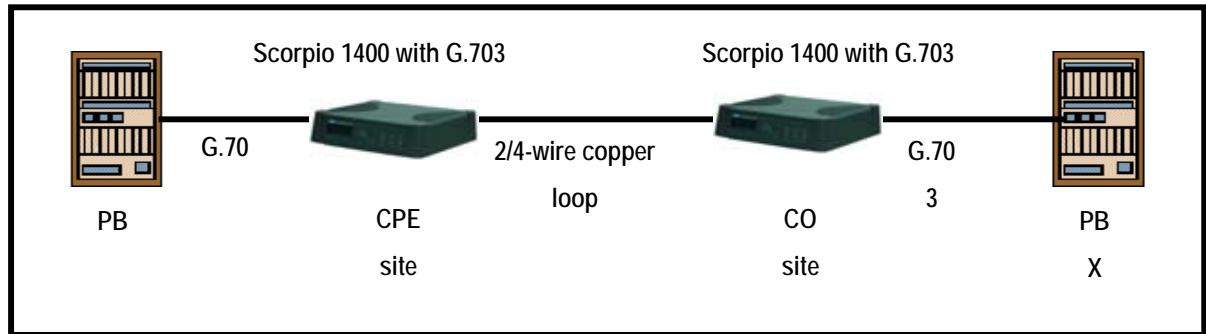
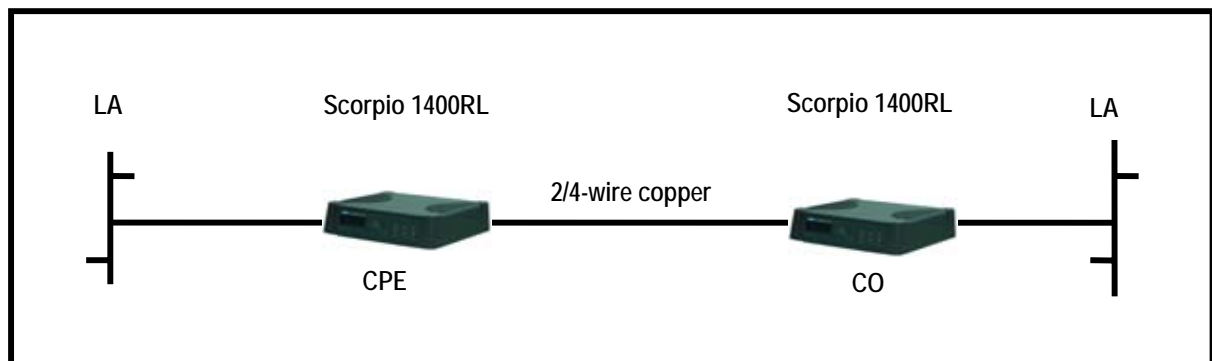

Figure 2-2 Network Application of the Scorpio 1400 with G.703 I/F
Figure 2-3 Network Application of the Scorpio 1400RL
The SCORPIO 1400 is well suited to the campus applications. *Figure 2-2* and *Figure 2-3* show two general campus applications where remote PBX or routers are interconnected across a campus using two SCORPIO 1400. One unit is configured as a central office site (CO) unit and the other is the customer premise equipment (CPE) unit.